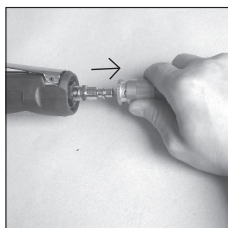

Figure 4
1. Disconnect the tool from air supply. (See Figure 4)